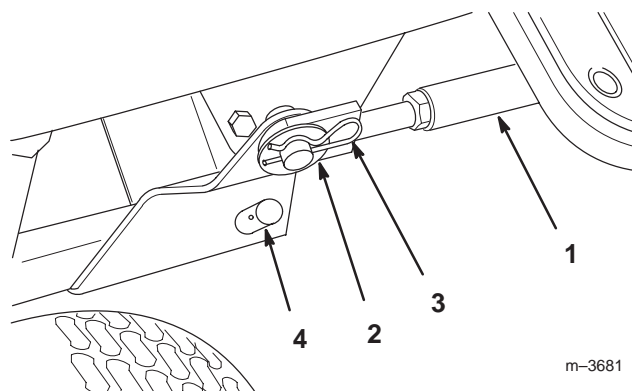

Figure 28
3. Remove the crank support by removing the hairpin cotter and clevis pin at its base (Fig. 28), then lifting the support from its mounting post.
1. Remove the support braces from the frame rods protruding from the mid Attach-A-Matic hitch by removing the hairpin cottes and washers (Fig. 28).